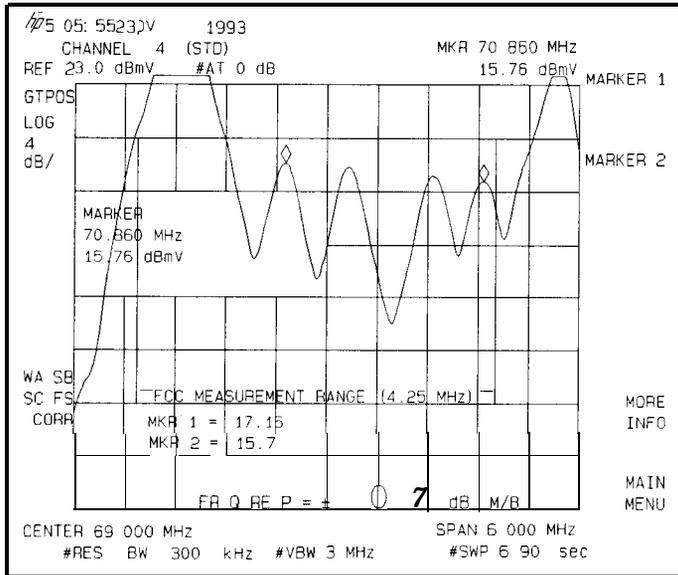

Figure 2-38. More Information (Multi-Burst)
5. Press **MORE INFO** to display the marker amplitudes. See Figure 2-38.